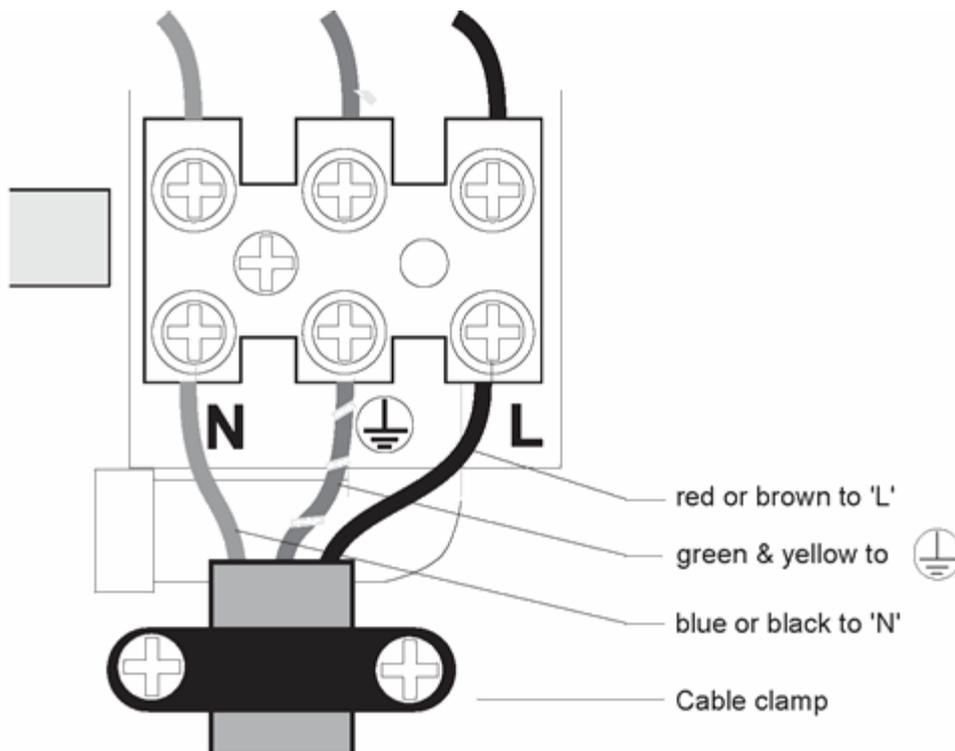

Figure 13 Electrical connection
6.5 Remove the screws and clamping bar from the cable clamp - see figure 13.
6.8 Strip the insulation from the cores and make connections - see figure 13.